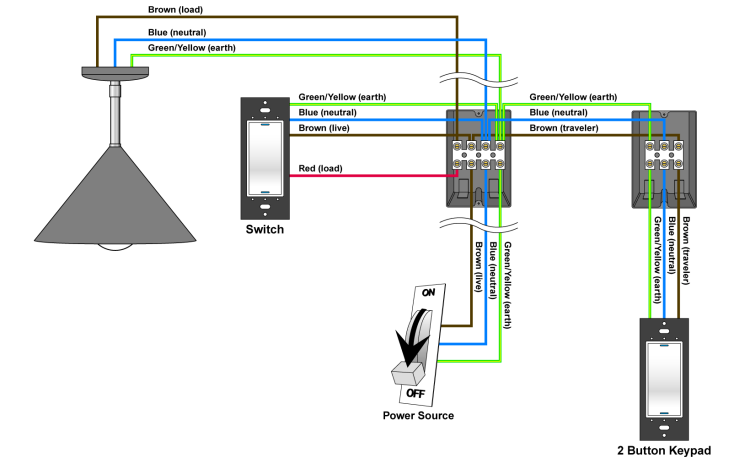

Figure 3. Wiring: Two-Location Scenario
- Wire the switch into Wall Box #1 by using a 4-position terminal connector to connect the following wires (illustrated in Figure 3):
- Wire the multi-button keypad into Wall Box #2 by using a 3-position (or greater) terminal connector to connect the following wires (illustrated in Figure 3):